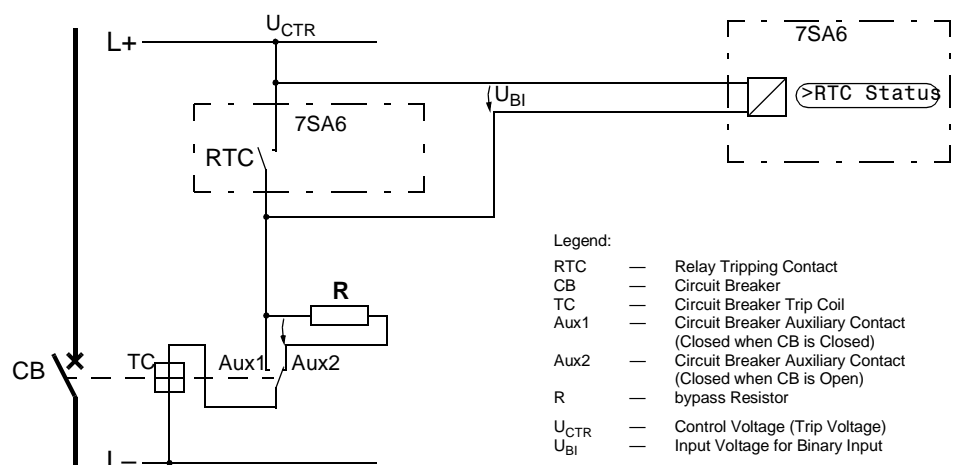

Figure 8-8 Trip circuit supervision with one binary input
If *one* binary input is used, a bypass resistor R must be employed (refer to Figure 8-8). This resistor R is connected in series with the second circuit breaker auxiliary contact (Aux2), to also allow the detection of a trip circuit failure when the circuit breaker auxiliary contact 1 (Aux1) is open, and the command relay contact has reset. The value of this resistor must be such that in the circuit breaker open condition (therefore Aux1 is open and Aux2 is closed) the circuit breaker trip coil (TC) is no longer picked up and binary input (BI1) is still picked up if the command relay contact is open.